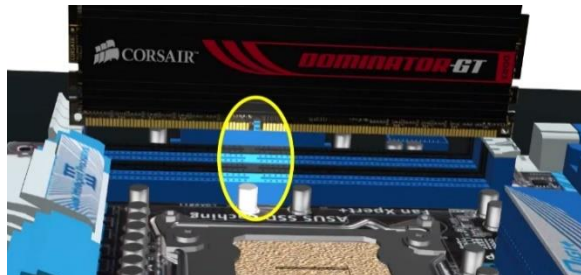
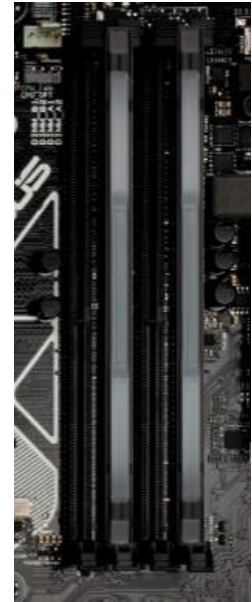

FIGURE 37: TESTOUT CORP. (2020, JANUARY 14). TESTOUT PC PRO (SECTION 3.8.5). RETRIEVED FROM [HTTP://WWW.TESTOUT.COM](http://www.testout.com)
FIGURE 38: TESTOUT CORP. (2020, JANUARY 14). TESTOUT PC PRO (SECTION 14.1). RETRIEVED FROM [HTTP://WWW.TESTOUT.COM](http://www.testout.com)
- 5.1. Align the first RAM into an appropriate memory slot. The memory slots are located to the right of the CPU socket. The memory slots to be used for this build are DIMM_B2 and DIMM_A2 (See Fig. 38). From the left, DIMM_B2 is the 2nd slot, and DIMM_A2 is the 4th slot. Ensure that the notch on the bottom of the RAM matches up with the slot (See Fig. 37).
- 5.3. Perform the same installation with the second RAM. If you installed the first RAM into slot DIMM_B2, install the second RAM into slot DIMM_A2. If you installed the first RAM into slot DIMM_A2, install the second RAM into slot DIMM_B2 (See Fig. 38). Installing the second RAM enables Dual-channel configuration.